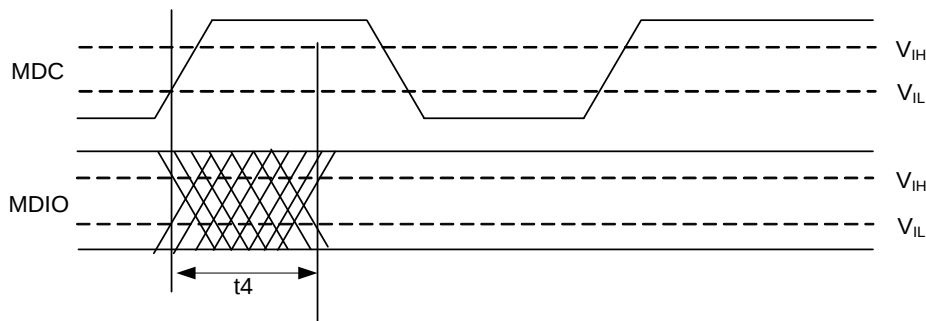

Figure 17. MDIO Sourced by RTL8218EI-VH (Slave)
- The timing characteristic t_4 (Figure 17) of the Slave (RTL8218EI-VH) are provided by the RTL8218EI-VH when the RTL8218EI-VH sources the MDIO signal (Read command)